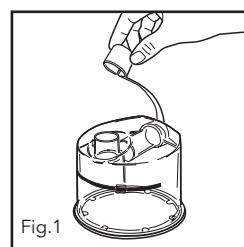

Fig.1
- b. Remove the blue caps and discard them (Fig.1).